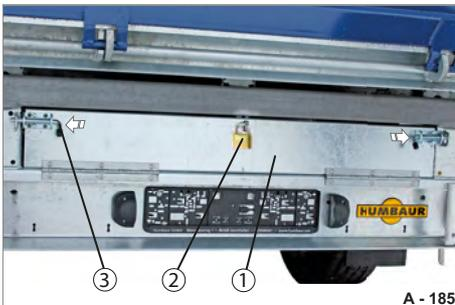

Fig. 196 Ramp planks / bays secured
- ▶ Lock the flap (Fig. 196/1) with the spring bar (Fig. 196/2).
- ▶ If necessary, close the flap with a combination lock (Fig. 196/3) as theft protection.